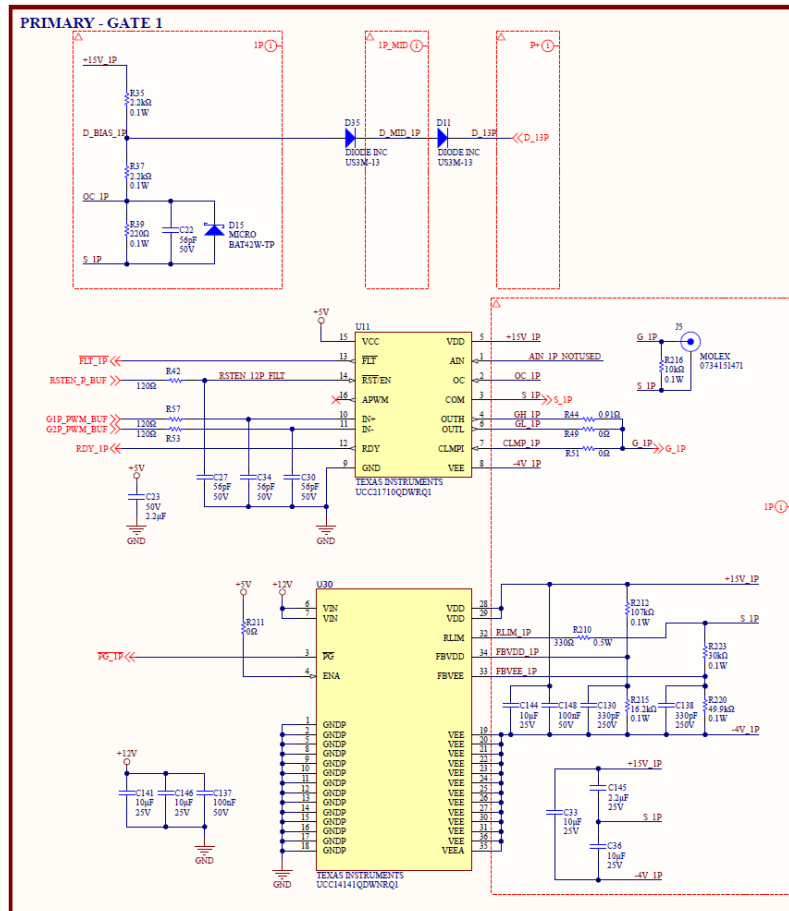

Figure 30: Example gate driver circuit on Control Stage (primary-side MOSFET position 1)
Each switch position on both the primary and secondary includes a dedicated, isolated gate driver for independent modulation of each switch position. These gate drivers each use the Texas Instruments® UCC21710 gate driver integrated circuit (IC) capable of 10 A maximum output current with independent turn-on and turn-off control, overcurrent protection, Miller clamp circuit, and analog feedback. Each switch position is powered by the Texas Instruments UCC14141-Q1 isolated power supply capable of supplying 1.5 W of power with bipolar output voltages. One example gate driver circuit is shown in Figure 30 for primary-side MOSFET switch position #1. Every gate driver is configured identically, with the exception of switch position 2 on both